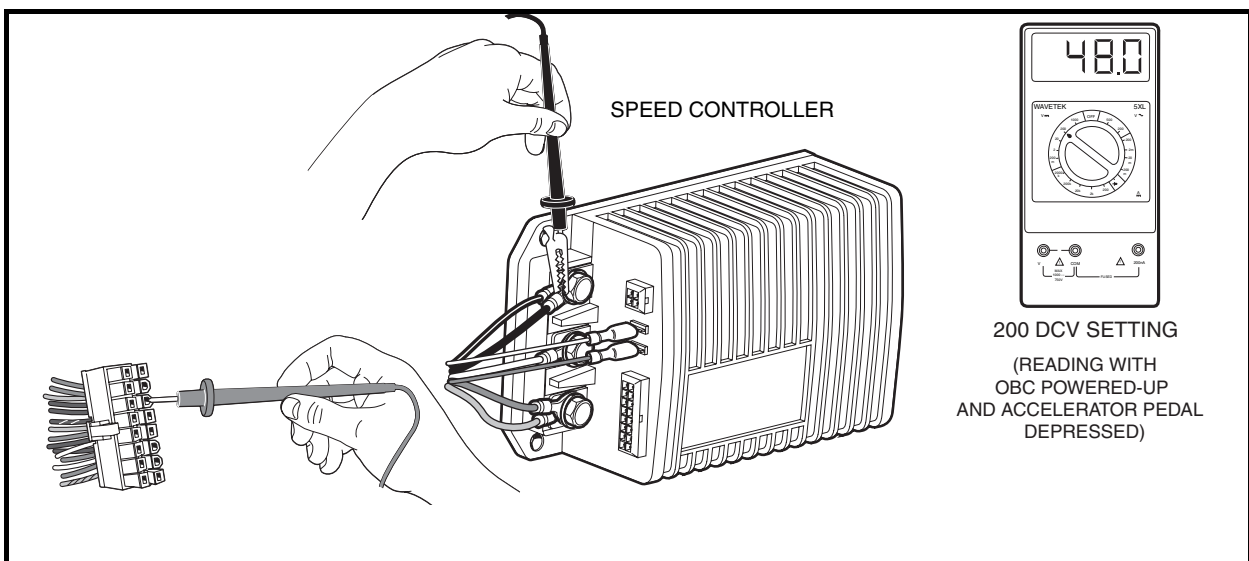

Figure 21-7 Pin 6 Test
4. Set a multimeter to 200 volts DC, insert the red (+) probe of the multimeter into pin 6 (green wire) of the 16-pin connector. **See following CAUTION.** Using an alligator clip, connect the black (–) probe to the B–terminal of the speed controller (**Figure 21-7, Page 21-21**).